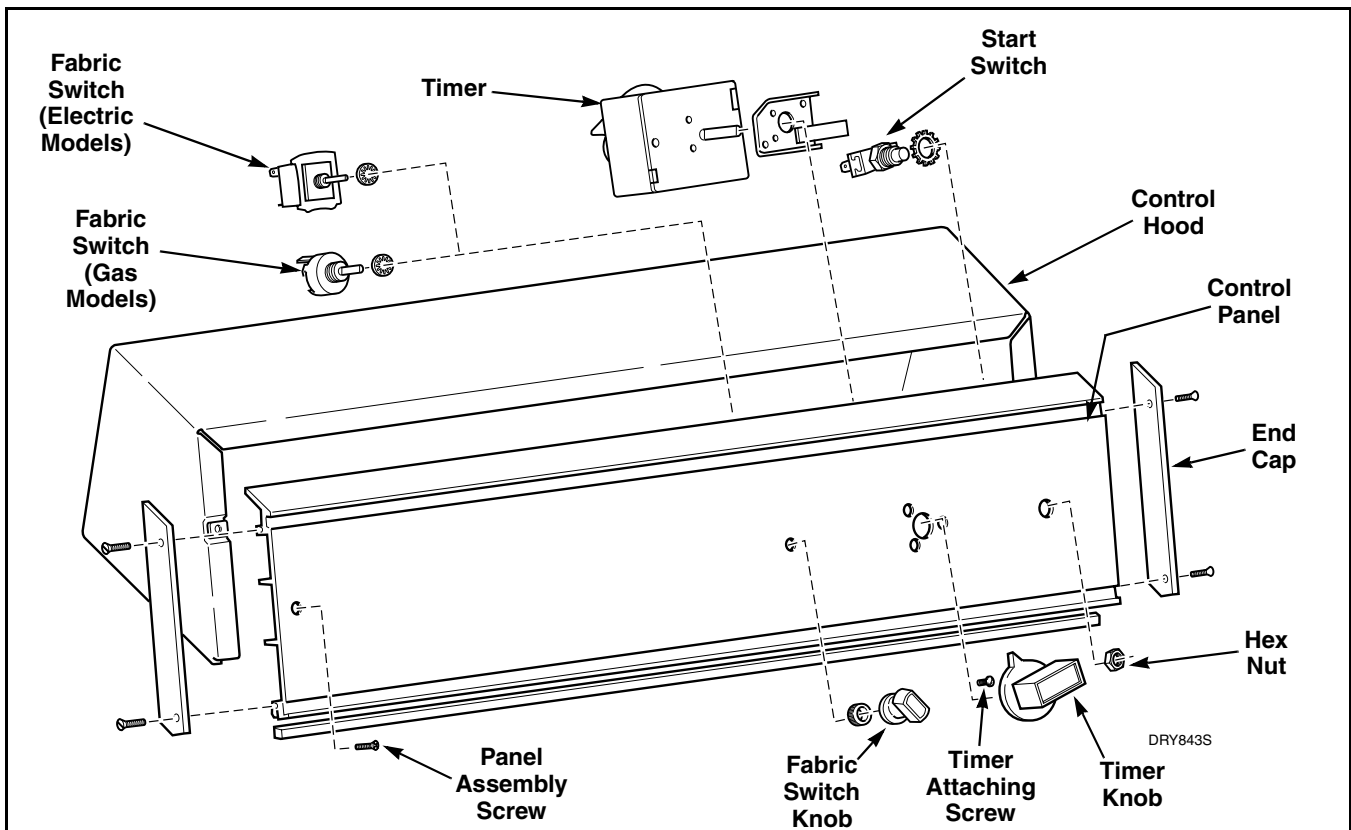

Figure 2
Refer to *Figure 2*
a. **Models JE2870 and JG2880.** Refer to *Figure 2*.
- (1) Pull timer knob off shaft.
- (2) Pull fabric switch knob off shaft.
- (3) Remove two control panel assembly screws and lift assembly off control hood
- (4) Disconnect all wires to fabric switch, push-to-start switch and timer.
- (5) Remove screws holding end caps to control panel. Refer to *Figure 2* for removal of components.
- (1) Refer to *Figure 2* for timer removal.